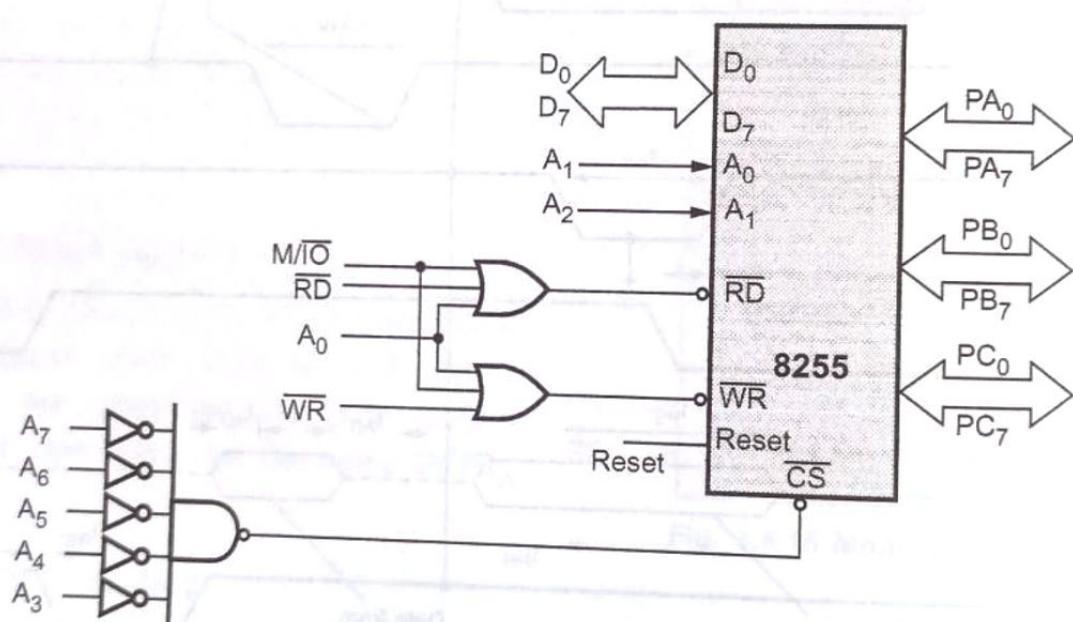

Fig. 3.4.18 I/O mapped I/O (Direct address method)
- Fig. 3.4.18 shows the interfacing of 8255 with 8086 in I/O mapped I/O technique. Here, \overline{RD} and \overline{WR} signals are activated when M/\overline{IO} signal is low, indicating I/O bus cycle.